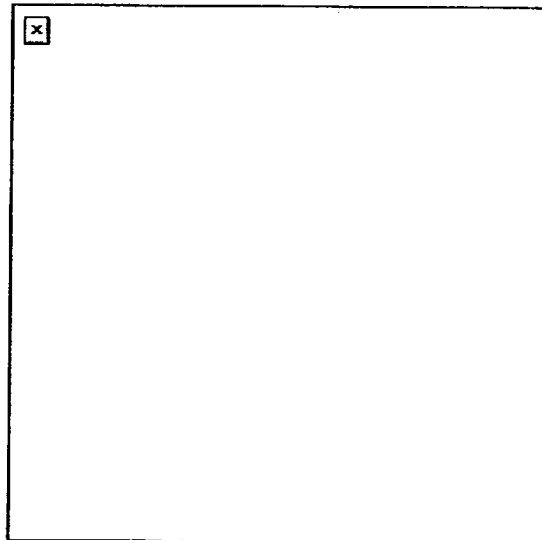

Figure 3. Removal of the locking block and barrel assembly.
- h. Push in on the locking block plunger while pushing the barrel forward slightly. Lift and remove the locking block and barrel assembly from the slide (Figure 3).